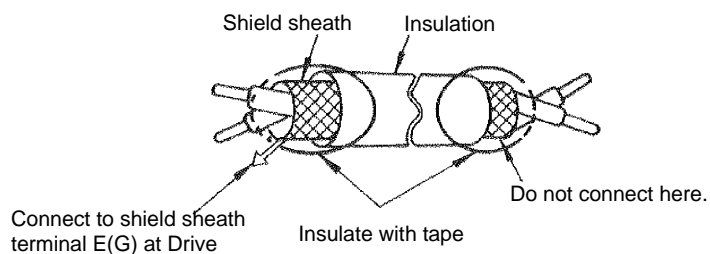

Fig 2.16 Preparing the Ends of Twisted-pair Cables
4. Use twisted-pair or shielded twisted-pair cables for control circuits to prevent operating faults. Prepare cable ends as shown in *Fig 2.16*.